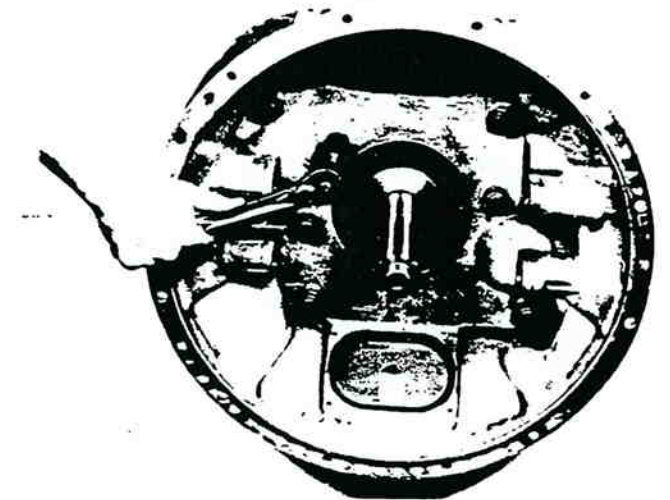

Figure 13-162. Tightening Bolts.
4. Install the four bolts in clutch housing and tighten to 90-100 ft. lbs. (122-135 Nm) torque (figure 13-162).